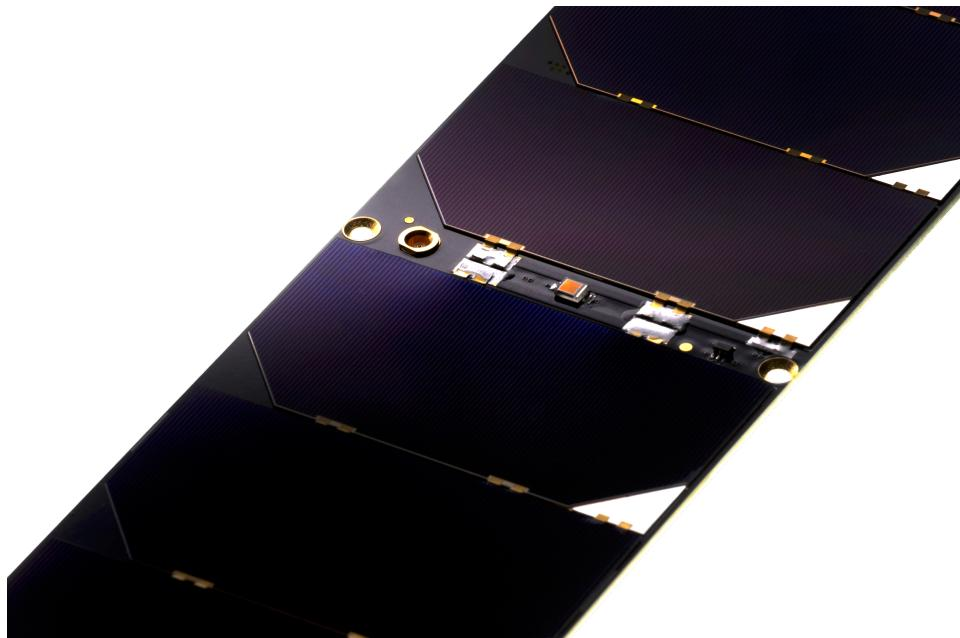

Figure 2 – close up of the 3U Solar panel with RBF and communication interfaces
5.2.1 Figure 2 shows the front part of the 3U solar panel and the location of the RBF pin and 4-pin connector.